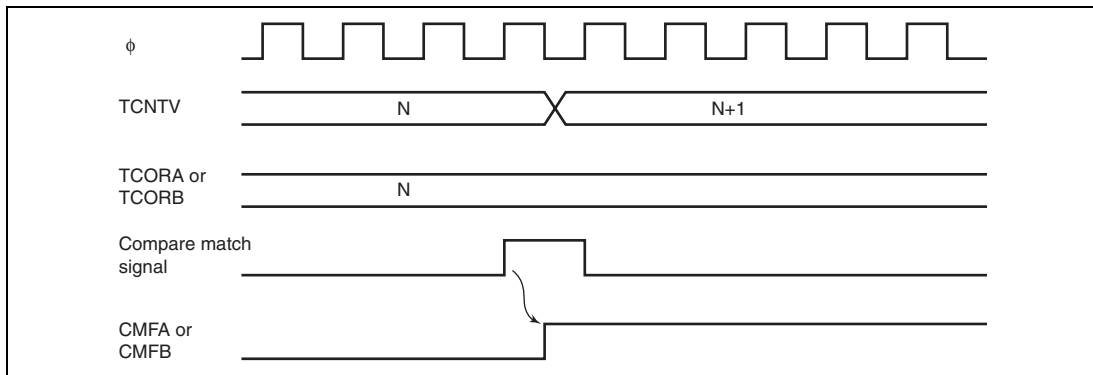

Figure 10.5 CMFA and CMFB Set Timing
3. TCNTV is constantly compared with TCORA and TCORB. Compare match flag A or B (CMFA or CMFB) is set to 1 when TCNTV matches TCORA or TCORB, respectively. The compare-match signal is generated in the last state in which the values match. Figure 10.5 shows the timing. An interrupt request is generated for the CPU when CMIEA or CMIEB in TCRV0 is 1.